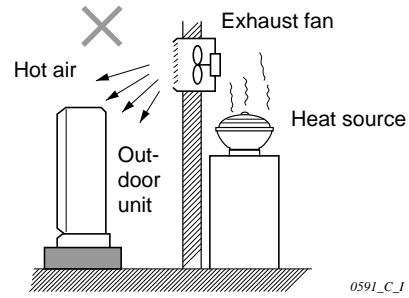

Fig. 5
- heat sources, exhaust fans, etc. Fig. 5